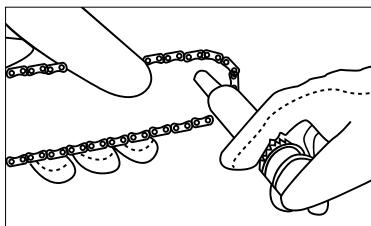

Fig. 28
3. Place the needle-shaped nozzle of the syringe in the grease hole and inject grease until it appears on the outside edge of the chain bar wheel (fig. 28).